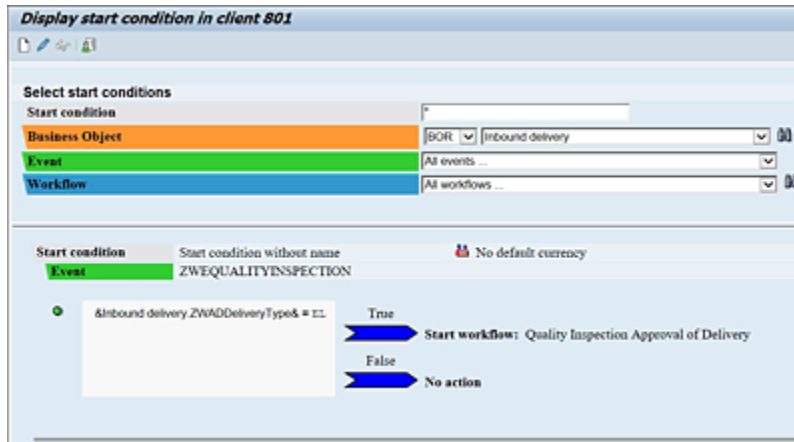

Figure 5.32 Creation of Start Condition for Event Linkage from Transaction SWB_COND
- Now you can create the start condition using Delivery type attribute for the event linkage in Transaction SWB_COND. Figure 5.32 shows a view of the event linkage entry in Transaction SWB_COND before creating a start condition for the same. (You can search for the event linkage based on the business object type/ABAP class, event name, receiver workflow, or task ID.)